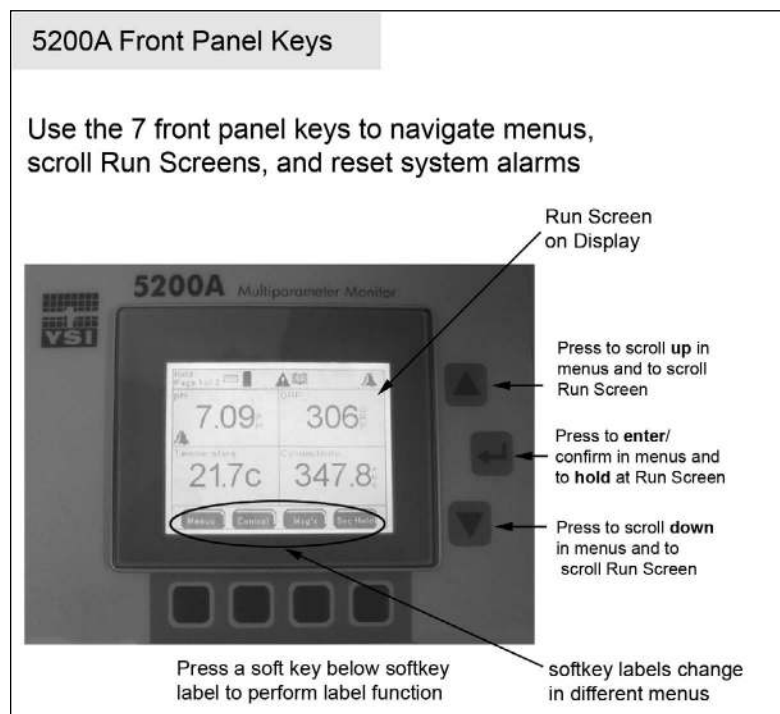

Figure 4.1
The front panel - figure 4.1, is the front component of the 5200A enclosure. The front panel contains the 5200A display and seven keys. Use the keys to navigate menus and instrument system information.
There are seven (7) 5200A front panel keys - figure 4.1. Use ▲ and ▼ keys to scroll and highlight menu lists and to scroll through multiple Run Screens. Use ← key to select and enter a highlighted submenu item and to hold one of multiple run screens from scrolling. Hold is not an option when there is only one run screen. Run screens can be scrolled when held by pressing ▲ and ▼ keys.